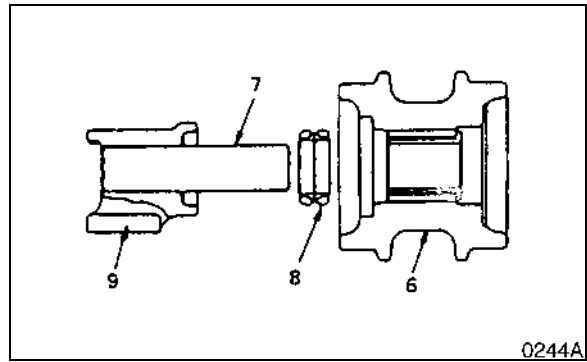

Figure 44
4. Separate the group seal (8, Figure 44) from the roller and bracket (9).